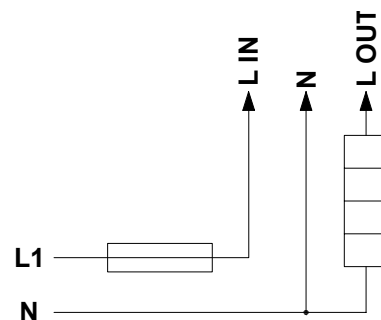

Fig.1
7. Connect the mains live wire to the **L-IN** terminal and the live wire from the towel rail to the **L-OUT** terminal (see Fig.1 below)